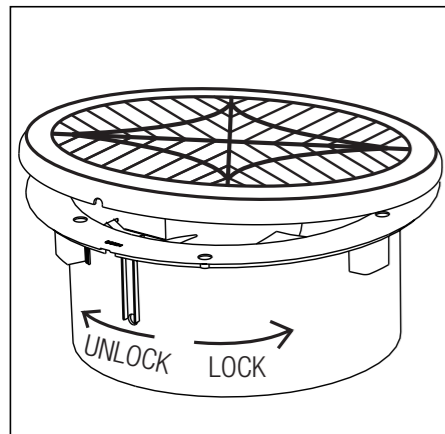

Fig. 5
3. Remove the grille (simply turn anti-clockwise to unlock), see (Fig.5)